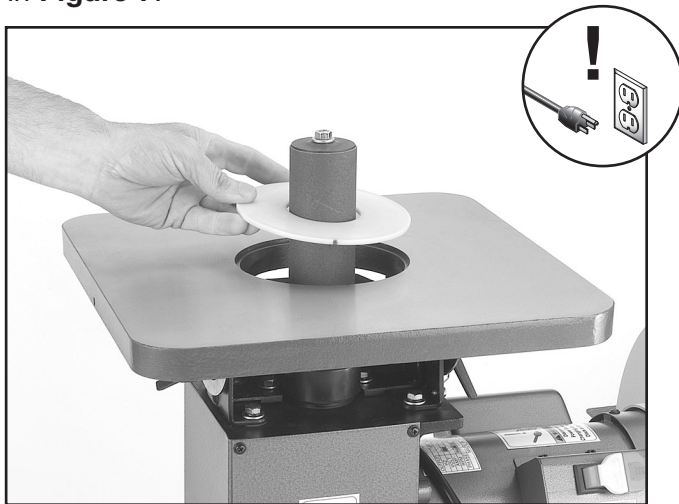

Figure 8. Installing table inserts.
2. Set the table at 90° as shown in **Figure 8**.